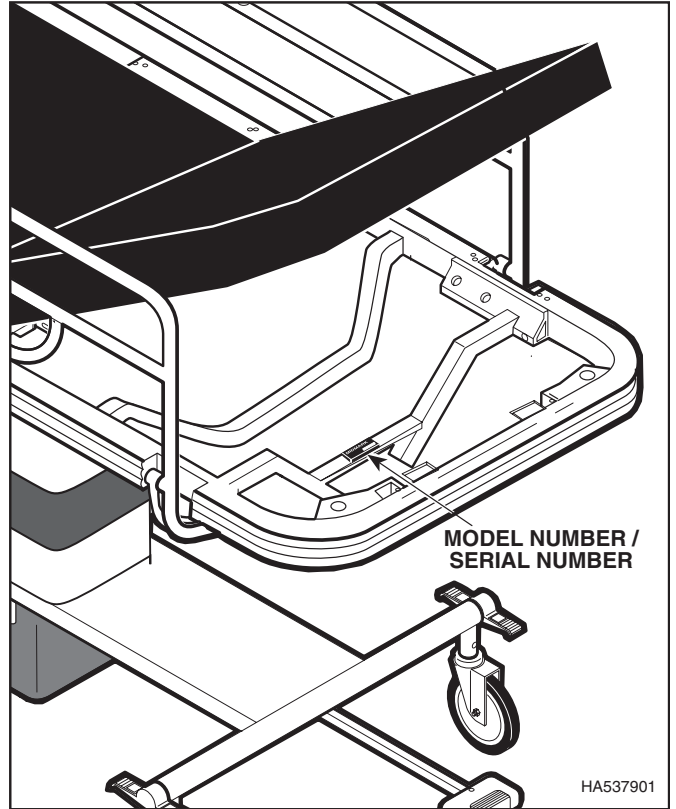

Figure 1-2. Model Number / Serial Number Location
- (1) Refer to Figure 1-2 to determine the location of the model number and serial number of the stretcher and record this data.
- (2) Refer to the Parts List to determine the item numbers of the parts, part numbers of the parts, descriptions of the parts, and quantities of parts needed and record this data (Refer to para 6.1).